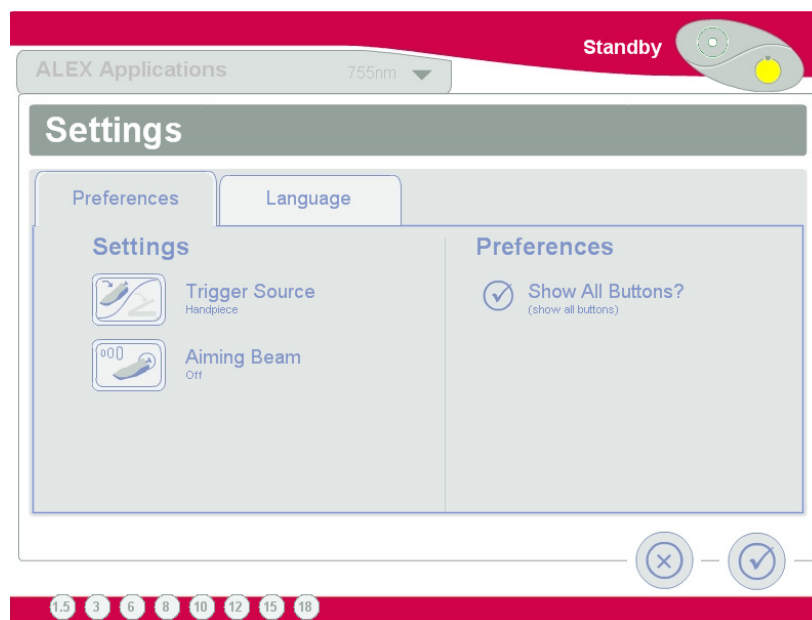

Figure 3-9: System Settings Screen
- Choose the preferred settings for the following parameters on the System Settings screen (see **Figure 3-9**):